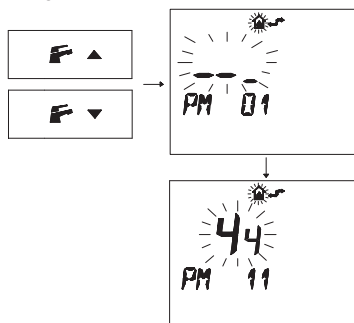

Fig. 7.33
- Press buttons **←** or **→** to display the "PM11" program of the pump post-circulation (Fig. 7.33).